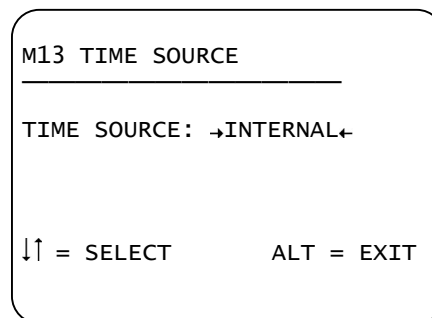

Figure 23. Time Source menu
- 1) Press **2** to advance to the Time Source menu (Figure 23).